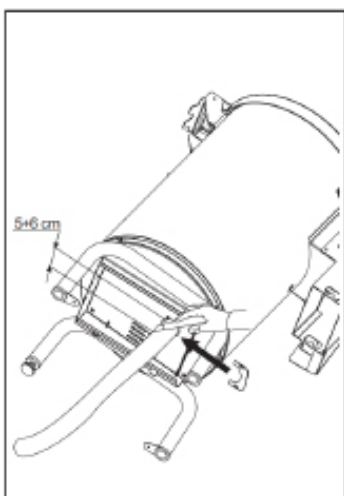

Fig. 14.
- Cut off the excess part of the tube under the machine so that it does not interfere with moving the sediment collection container (Fig. 14).